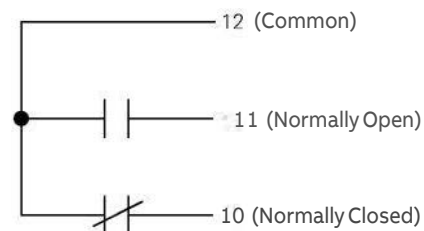

Figure 14. Bell Alarm with Lockout connections on the right terminal block. The contacts are shown in the reset state.
In addition, the Bell Alarm with Lockout provides normally open (NO) and normally closed (NC) alarm outputs available at the terminal block on the right side of the breaker, as illustrated in Figure 14. These outputs are returned to their normal state when the Bell Alarm with Lockout reset button is firmly pressed.